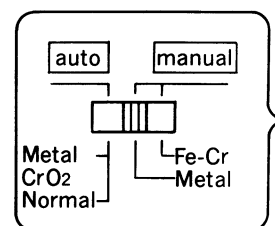

Fig. 5
- When the tape used is not provided with the metal tape detection hole, set the tape selector to metal-manual position (fig. 5).